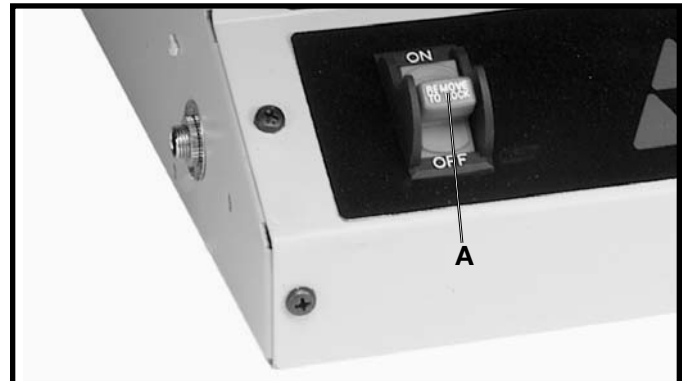

Fig. 14
The on/off switch (A) Fig. 14, is located on the front of the Router/Shaper cabinet. To turn the machine "ON," move the switch (A) to the "ON" position. To turn the machine "OFF," move the switch (A) to the "OFF" position.